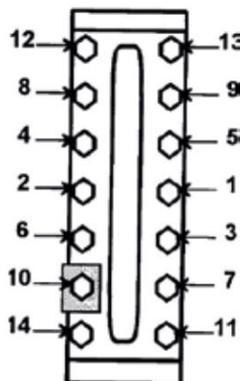

FIGURE 3
4. Hold liquid chamber assembly in place and tack weld four places as shown in Figure 3.